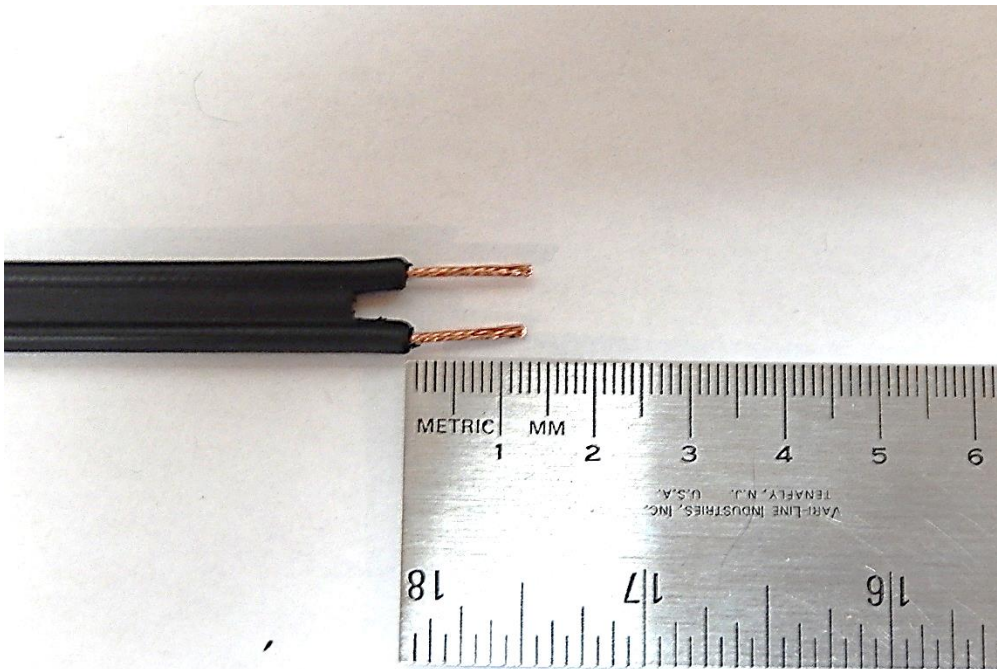

Figure 3
3. Strip about 1.25 cm of insulation from one end of both conductors of the twin lead as shown below (Fig. 3). There is an excess of 300 ohm twin lead so you can take a couple of dry runs getting this right and still have enough twin lead to finish the project. Take your time. Try not to cut any of the strands of wire off in the process.